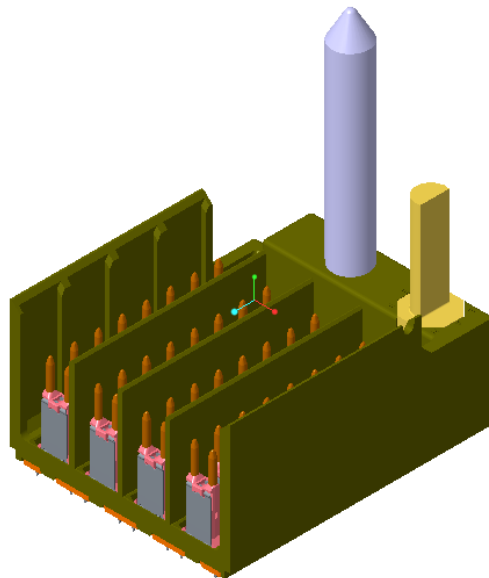

Figure 4: Paladin 4x8 with integrated guide and polarizer.
- 3.1.2 Left, right, and double guide/polarizing modules have integrated, plastic mounted, standard guide pins available, see Figure 4.